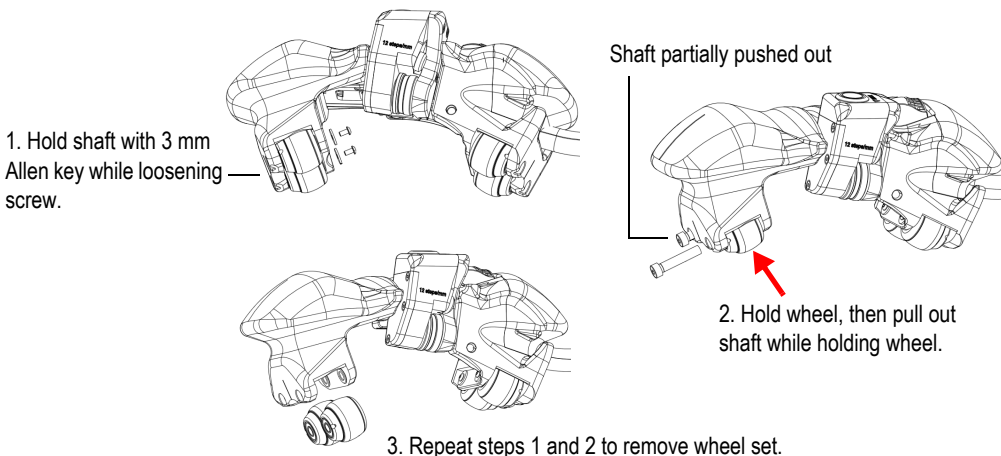

Figure 5-1 Changing a wheel
1. Use a 3 mm Allen key to hold the shaft and a 2 mm Allen key to remove the screw on the wheel you want to replace (see Figure 5-1 on page 46).